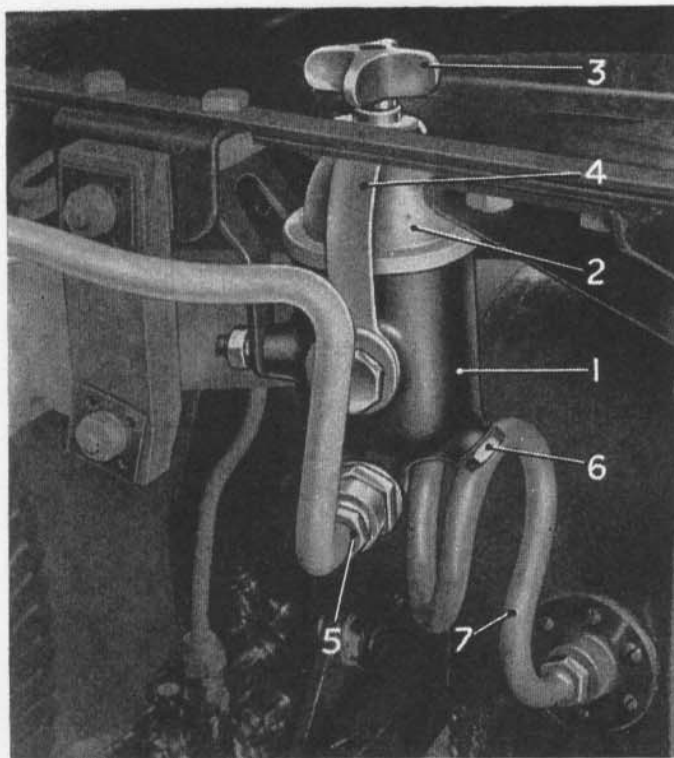

Fig. 12. REAR FILTER.
A pipe is arranged along the right-hand side frame member conveying fuel from the tank to the pumps. The pipe is seen at (4). A strainer is provided on this pipe line, being located on the frame cross member immediately in front of the tank, as shown in Fig. 12.
The rear filter, shown in Fig. 12, is provided with two circular gauzes located above a large settling sump. Fuel passes upwards through these gauzes, and dirt settles on their lower faces and in the sump.
When refitting the cover, care must be taken that the cork washer is sound, and properly in position, and the nut (3, Fig. 12) tightly screwed up. Any leaks on this—the suction side of the pumps—although they may not be apparent by leakage of fuel, will impair the proper functioning of the pumps by admitting air.